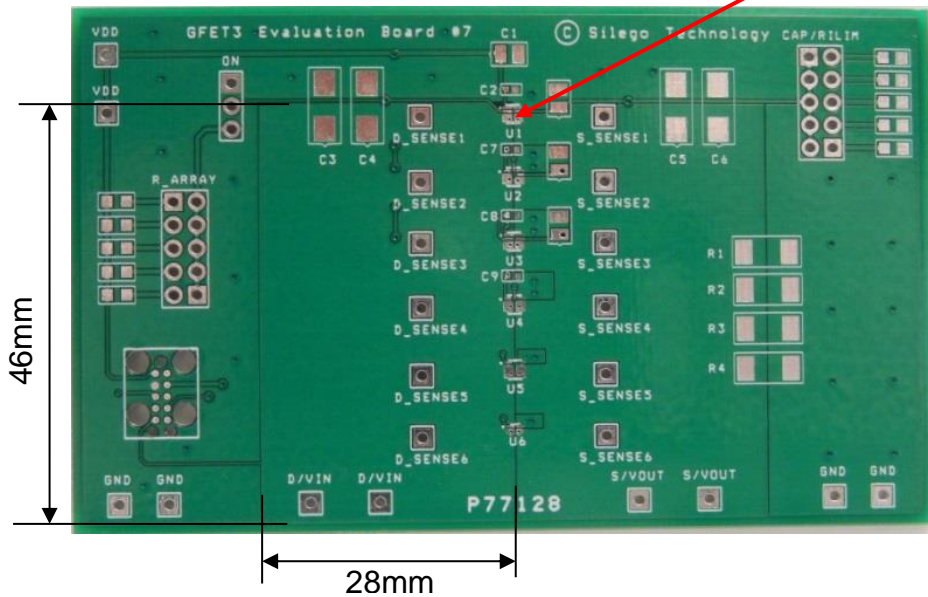

Figure 3. SLG59M1657V Evaluation Test Board
2.3. The D/VIN and S/VOUT pins carry significant current. Please note how the D/VIN and S/VOUT pads are placed directly on the power planes in Figure 3, which minimizes the $R_{ds(ON)}$ associated with long, narrow traces. The D/VIN, S/VOUT and GND pins dissipate most of the heat generated during high-load current condition. The layout shown in Figure 3 is illustrating a proper solution for heat to transfer as efficiently as possible out of the device.